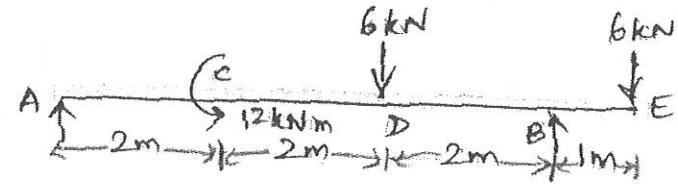

Figure 2
- (b) Determine the deflection at point D in the beam shown in Figure 2 using Castigliano's theorem.